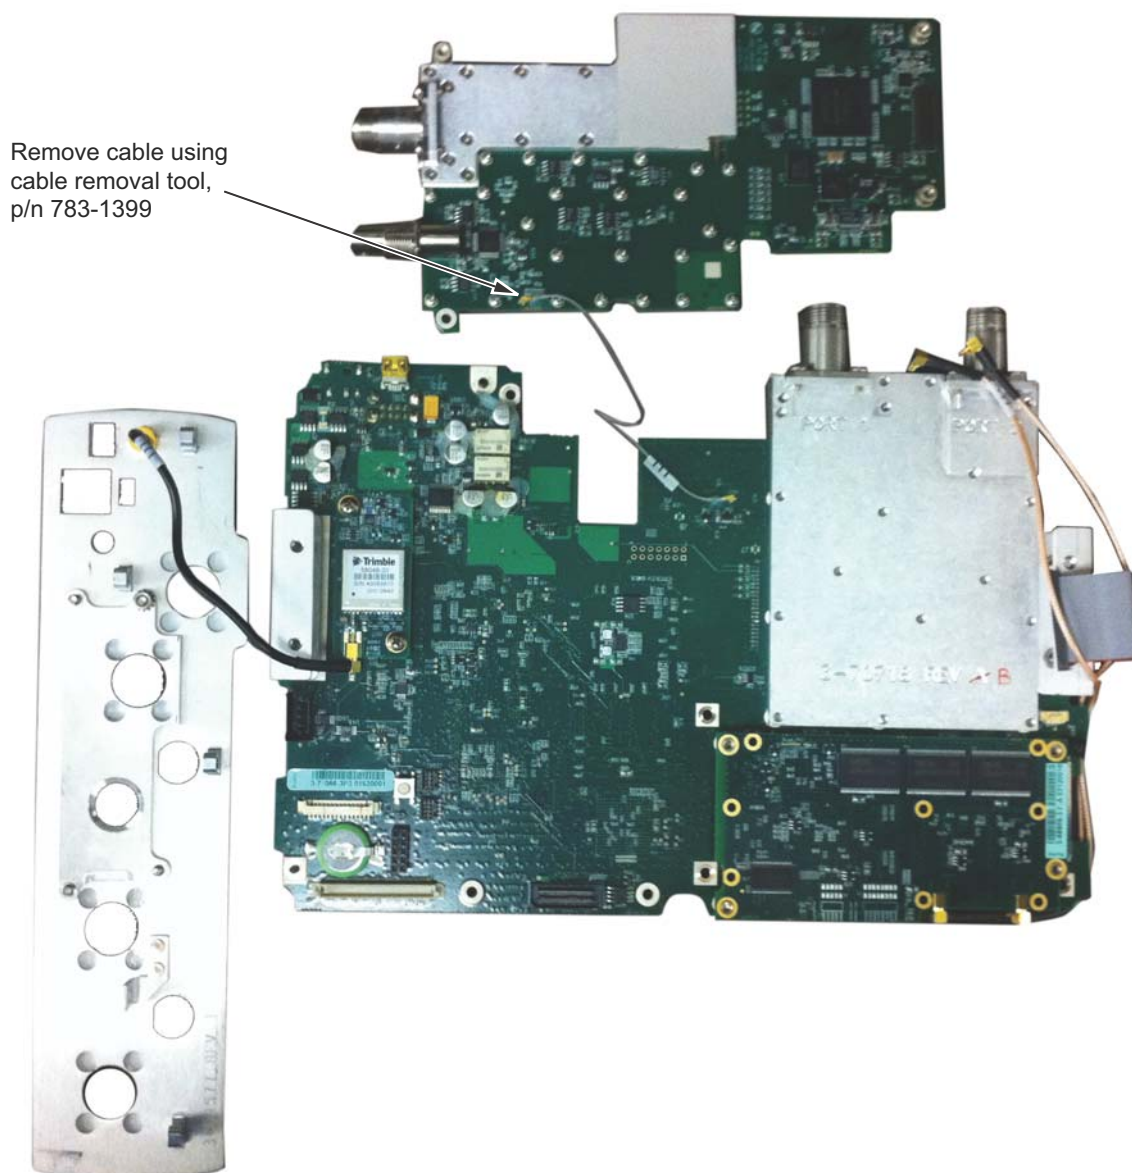

Figure 7-11. Remove Cable Using Cable Removal Tool
8. Remove the cable shown in Figure 7-11 using the cable removal tool, part number 783-1399. When inserting the cable onto the new Signal Generator make sure the cable connector is parallel to the PCB so the connector is plugged on correctly. The cable should not be removed or inserted at an angle.